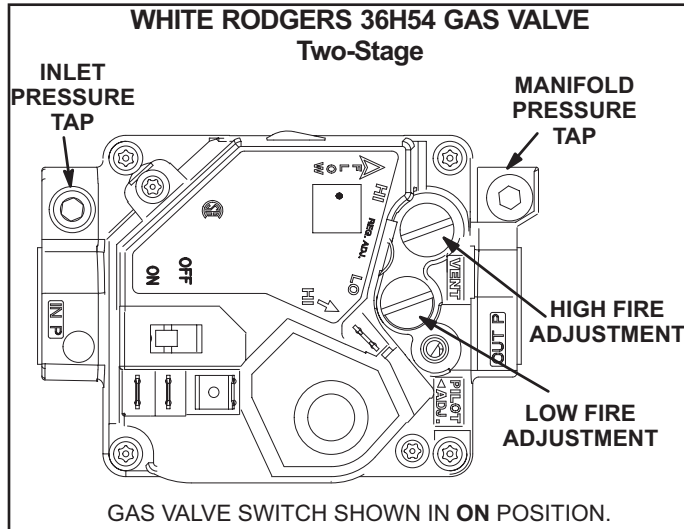

FIGURE 27
Gas Valve Operation for Honeywell VR8205Q / VR8305Q and White Rodgers 36H54 (FIGURE 27)
- 5 - Turn gas valve switch to **OFF**. See FIGURE 27.
- 6 - Wait five (5) minutes to clear out any gas. If you then smell gas, **STOP!** Immediately call your gas supplier from a neighbor's phone. Follow the gas supplier's instructions. If you do not smell gas, go to the next step.
- 7 - Turn gas valve switch to **ON**. See FIGURE 27.